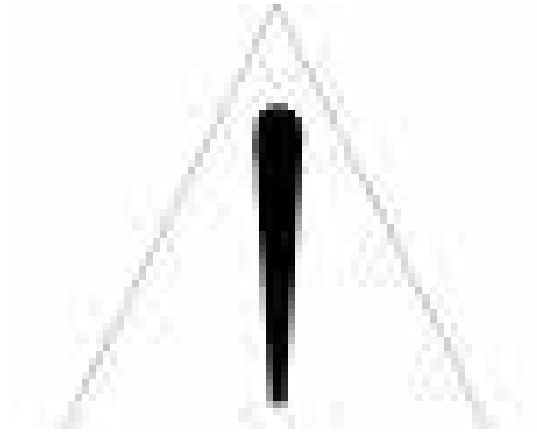

Figure 4.13 - Placing HGF motor in vertical position
2. Lower the hoist fixed to motor drive end while lifting the hoist fixed to motor non-drive end until the motor reaches its equilibrium, see Figure 4.13;